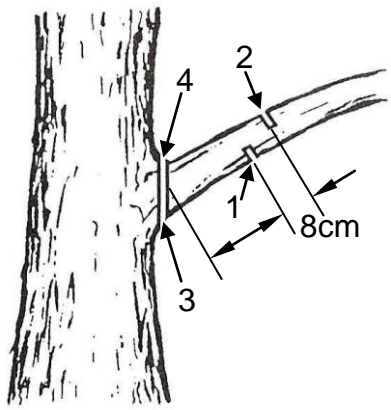

Figure 16
REMOVING BRANCHES (Fig.16)
- Cut a deep notch from below into the branch about 15cm from the trunk (Fig.16 No.1).
- Now cut the branch from above about 5cm further outwards from the lower notch until the branch drops off (Fig.16 No.2).
- In order to remove the remaining stub, cut from below about 1/3 into the remaining branch close to the trunk (Fig.16 No.3).
- Cut into the branch from above until the branch has been removed completely (Fig.16 No.4).
- If cutting in area A (see figure 16), saw up from the bottom one-third and finish by sawing down from the top. If cutting in area B, saw down from the top one-third and finish by sawing up from the bottom.